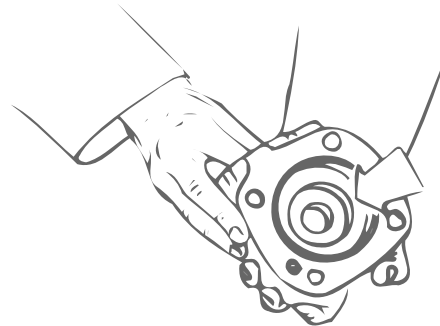
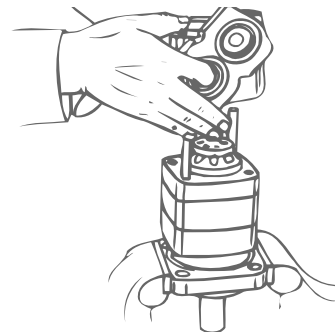

Figure 21
Figure 22
41. Align balance ring assembly pins with 2 holes in valve housing (see Figure 21). Install balancing ring subassembly in valve housing.
42. Insert your finger through port of housing. Apply pressure to side of balance ring assembly. Hold ring in position until valve housing is in place (see Figure 21). Align case drain hole in housing with case drain hole in valve plate. Install valve housing against valve plate (see Figure 22).